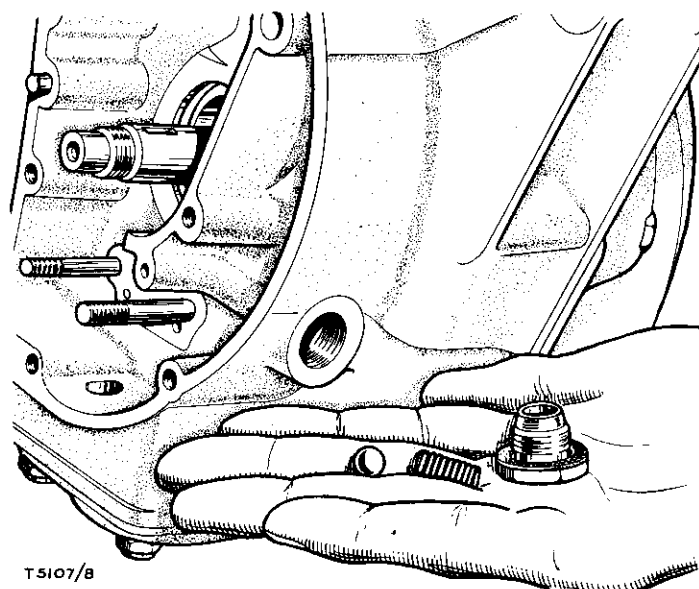

Fig 8 Oil pressure release valve
23. A constant oil pressure is maintained by the release valve (Fig 8) situated on the front right-hand side of the crankcase.